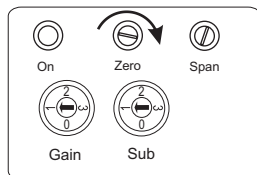

Fig.4
6) Use the Span potentiometer to set the current value for the actual level to 20mA. Turn the potentiometer clockwise to increase current. Turn the potentiometer counter-clockwise to decrease current (Fig.4).